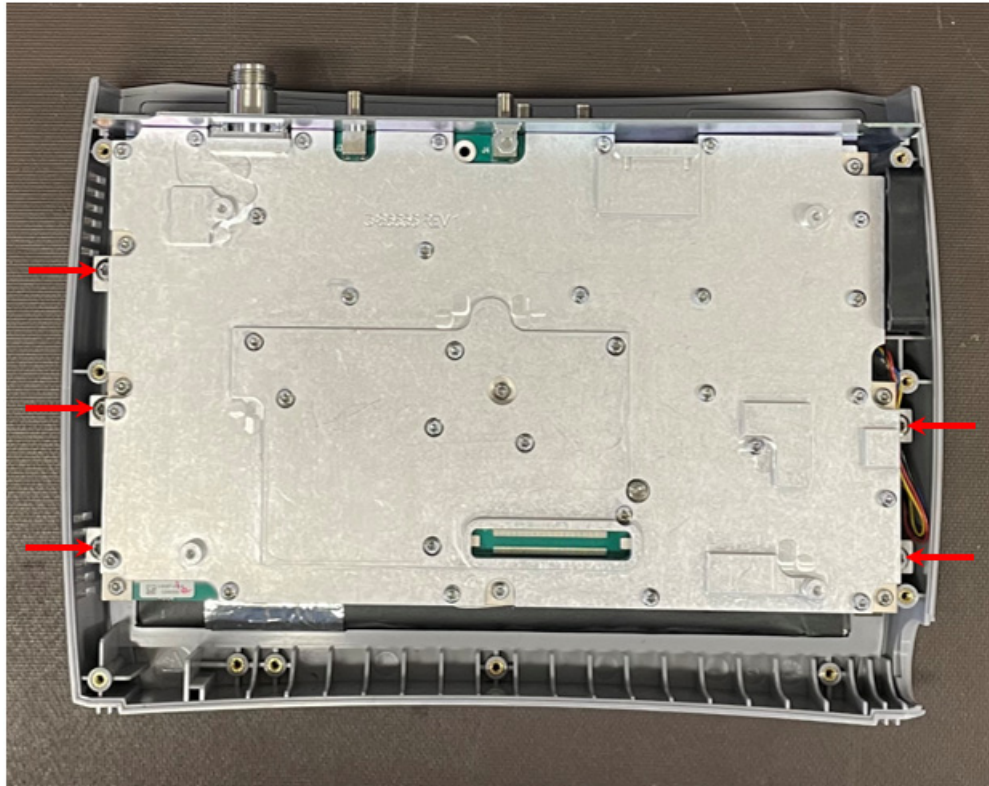

Figure 5-6. Main PCB/SPA PCB Removal
3. Remove the five Torx screws securing the Main PCB and SPA PCB assemblies using a T20 Torx driver. See Figure 5-6.